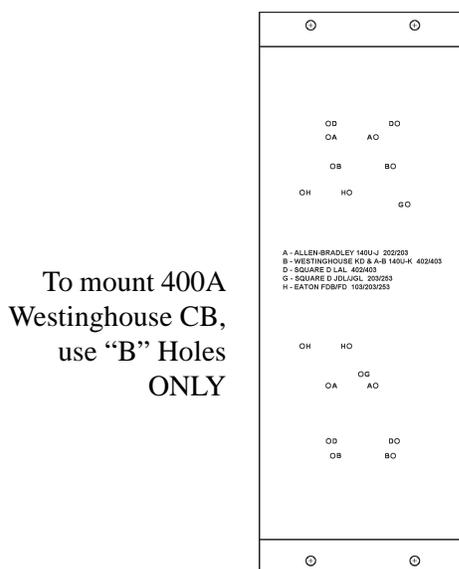

Figure 7
2. Place the Allen-Bradley Operator (A-B P/N 1494V-M60) on the Breaker Mounting Plate (ENTRON P/N 530026) aligning the mounting holes on the Operator with the “B” designated mounting holes on the Plate (note plate orientation in Figure 7).